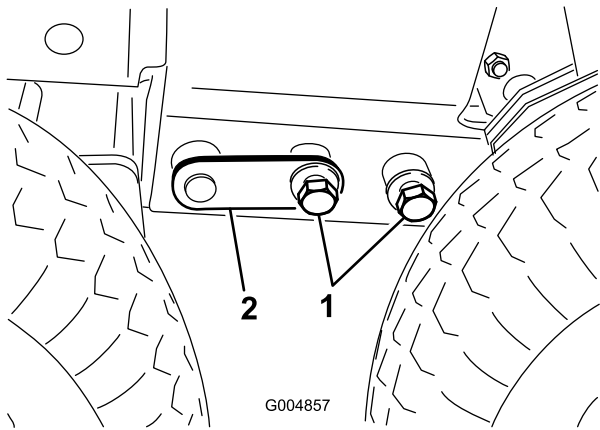

Figure 115
26. Adjust the floor jack or rock the cab with your hands as required to install the bolts (3/4 inch) on each side (Figure 115). Torque the bolts to 359 N-m (265 ft-lb).